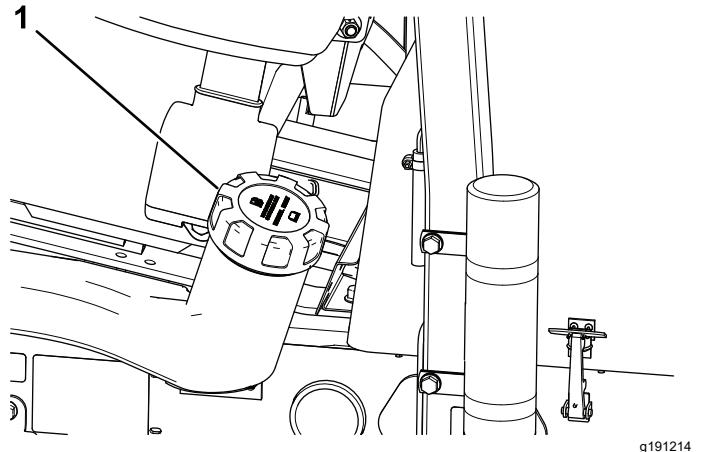

Figure 44
2. Clean the area around the fuel-tank cap (Figure 44).